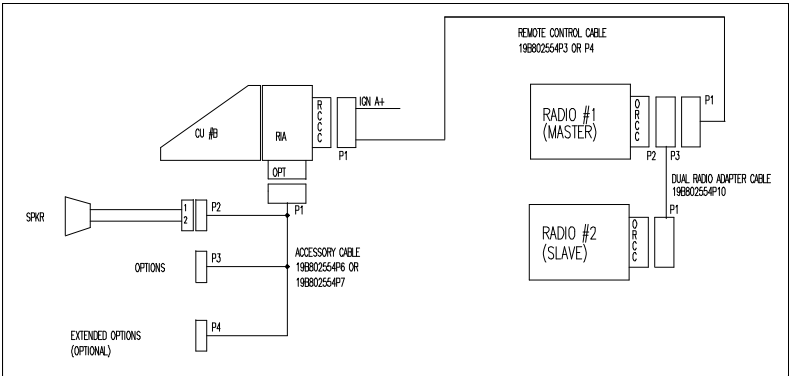

Figure 37 - Orion Dual Radio Remote Mount Installation Configuration
1. Plan the mounting locations of the two Radio Units. Note that the maximum cable length allowed between the two radios is two meters. Referring to Figure 37, run Dual Radio Cable (19B802554P10) between locations for Master and Slave Radio Units. Be sure to locate the P2/P3 connector assembly at the Master Radio Unit.